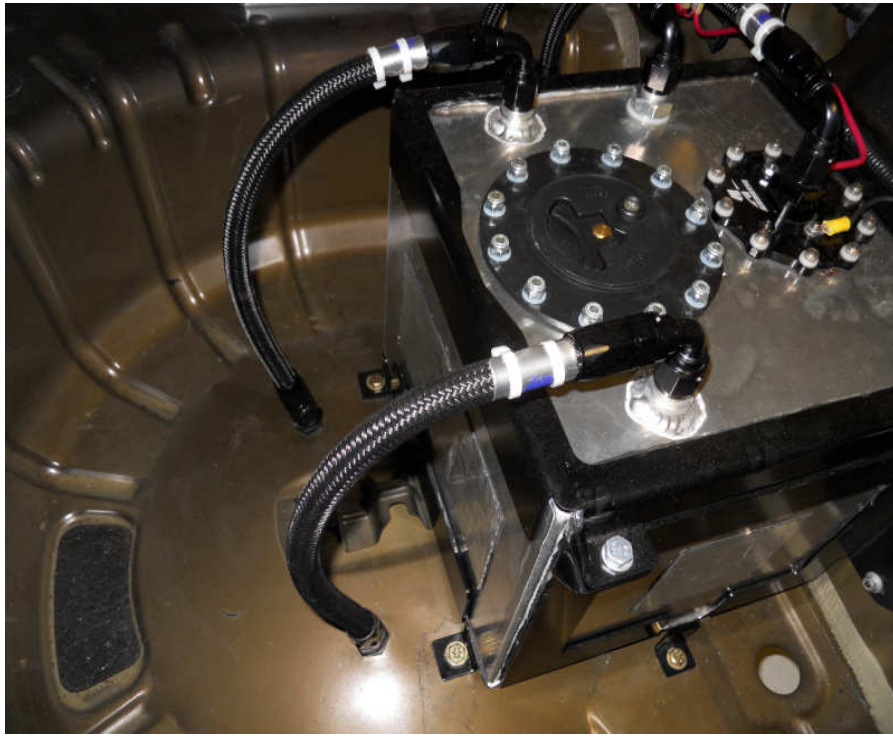

Figure 1-2
- 1-7. Assembly two identical hoses, 90 degree hose end on one side and a straight on the other. These will be used for the tank vent hoses, **Figure 1-2**.